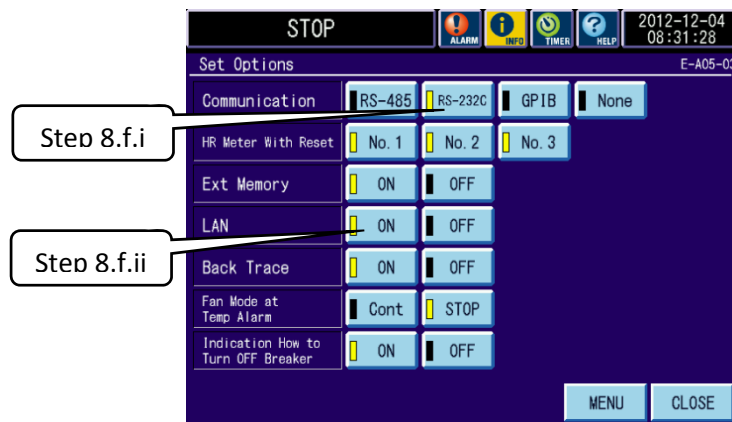

Figure 6: Set Options
- f. Change the following settings (see Figure 6):